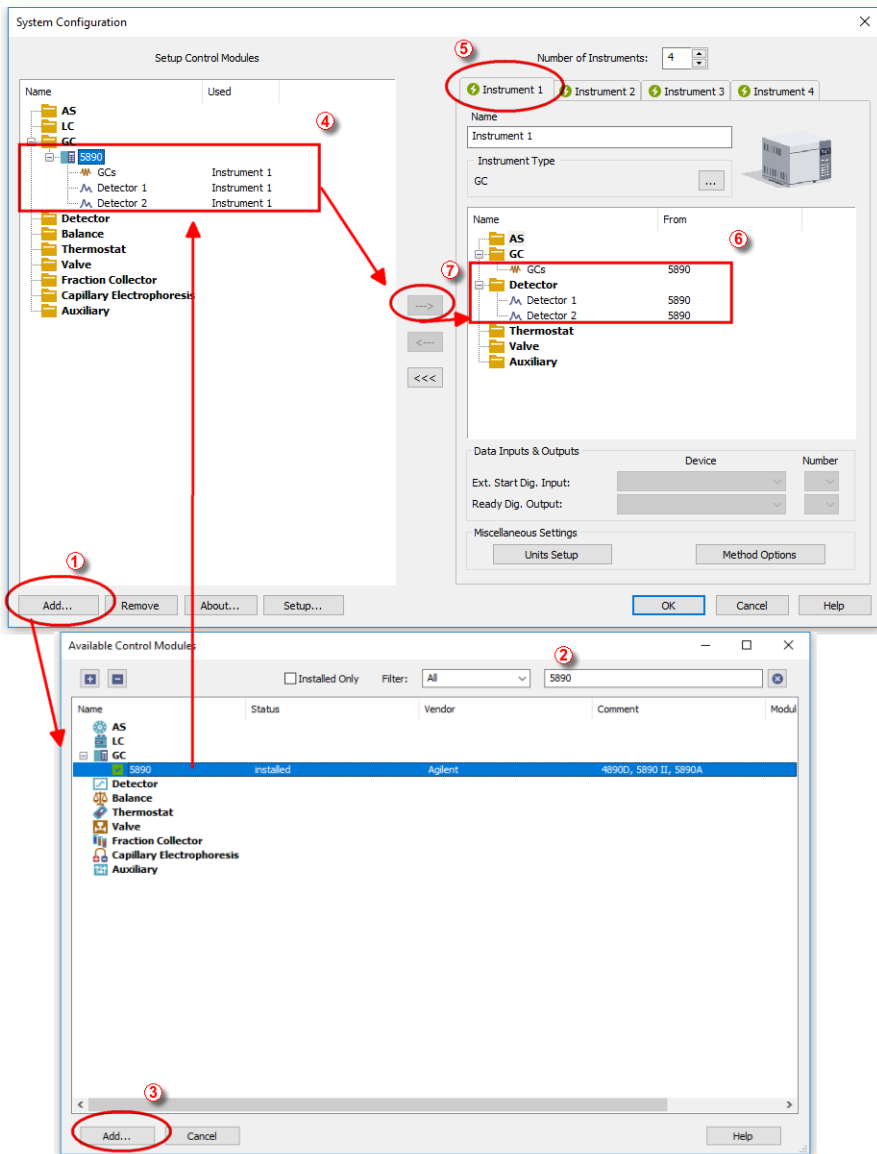

Fig. 4: System Configuration
- Press the *Add* button ① (see **Fig. 4** on pg. 7.) to invoke the *Available Control Modules* dialog.
- You can specify the searching filter ② to simplify the finding of the driver.
- Select the **5890** and press the *Add* ③ button.